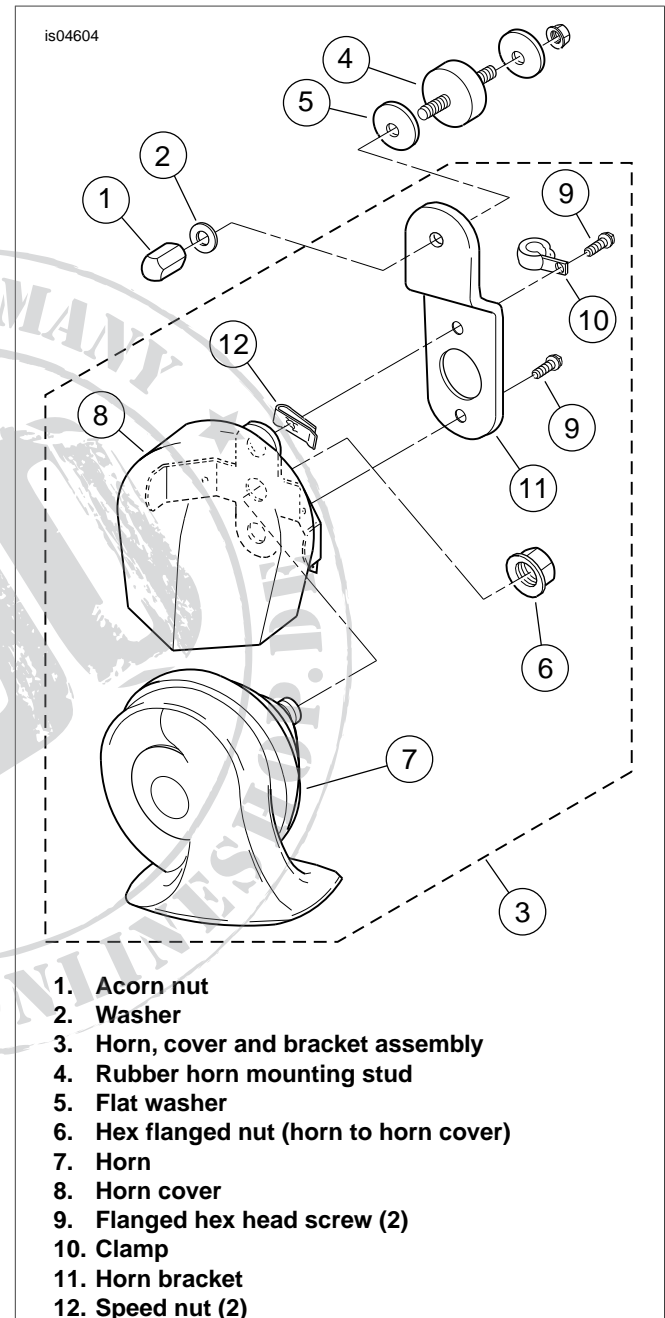

Figure 1. Original Horn Cover Removal
2. See Figure 1. Remove the acorn nut (1) and washer (2) to free the horn, cover and bracket assembly (3) from the rubber mounting stud (4). The rubber stud and large flat washer (5) remain installed to the vehicle.
3. Disconnect the elbow terminals from the two spade contacts on the horn. Release the main harness conduit from the J-clamp (10) (if present).
- b. See Figure 1. Remove and retain the two flanged hex head screws (9) and clamp (10, if so equipped) from the horn bracket (11).
- c. Remove and retain the two speed nuts (12) pressed onto the ears of the horn cover bracket.
- b. See Figure 1. Install the two speed nuts (12) from the Installation Kit onto the ears of the **new** horn cover in the orientation shown.
The Horn Cover Installation Kit consists of Items 1, 2, 6, 9, 10, 11 and 12 as shown in Figure 1. References to these items in the following instructions refer to those removed from the original horn assembly or from the Horn Cover Installation Kit, as appropriate.
Test the horn only when mounted on the vehicle. The sound may be muffled if tested when hand-held. A muffled sounding horn that is mounted to a vehicle may indicate permanent damage to the horn caused by over-tightening the horn to horn cover nut (see Figure 1, Item 6). Try adjusting the nut torque to resolve the sound quality. Replace the horn if necessary.